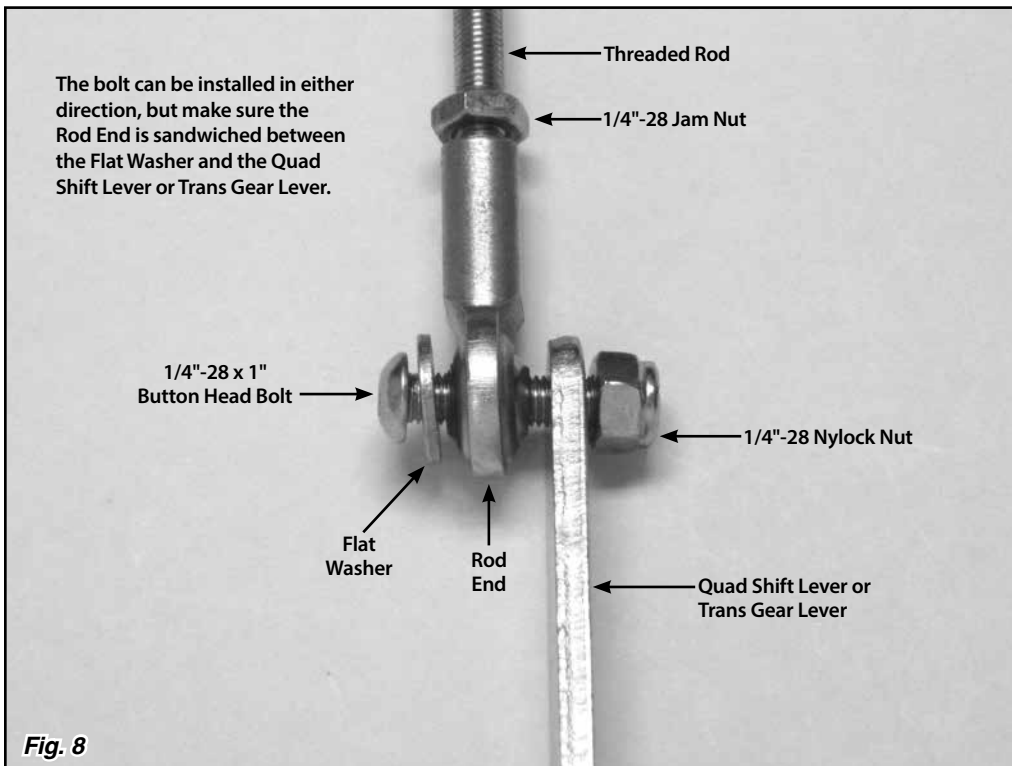
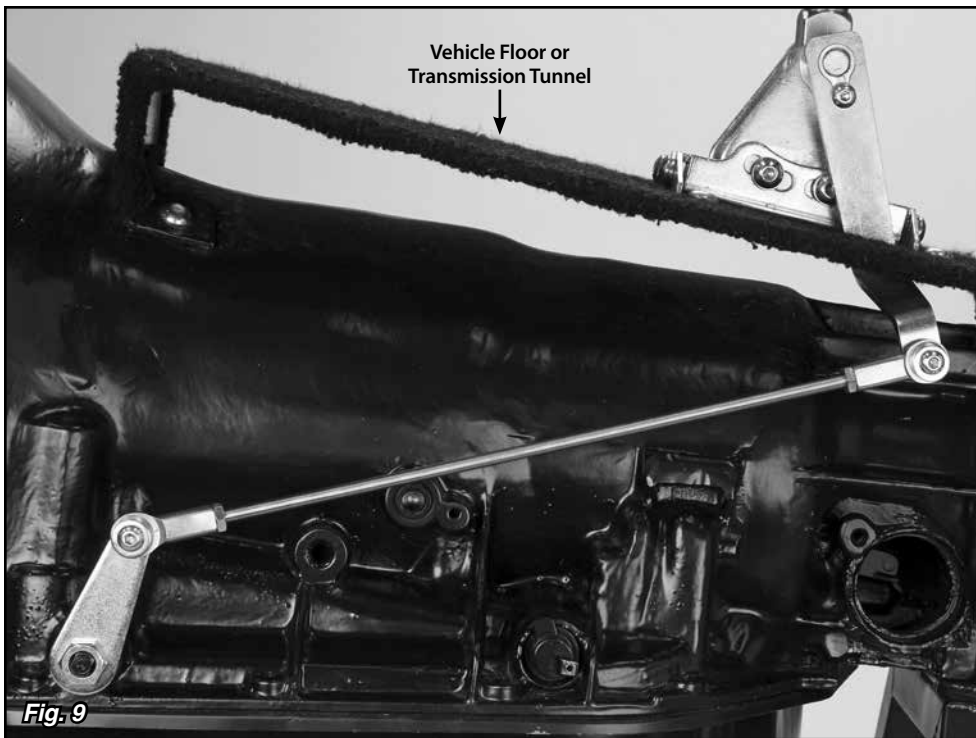

Fig. 8
Fig. 9
Step 12: Make sure two 1/4"-28 jam nuts are installed on the threaded rod, one at each end. Install a rod end onto each end of the threaded rod. Position the rod ends on the inside or outside of the quad shift lever and trans gear lever so the threaded rod is as straight as possible. Attach the threaded rod assembly to the quad shift lever and trans gear lever using the 1/4"-28 x 1" button head bolts, flat washers, and nylock nuts as shown in **Fig. 8**. The button head bolts can be installed from either direction, but make sure the rod ends are sandwiched between the flat washers and the quad shifter lever or trans gear lever. **Fig. 9**